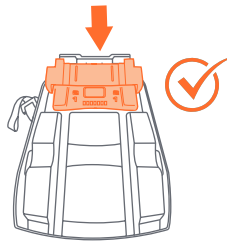

Fig. 57-1
- 1- Turn Base over with elevation foot away (Fig. 57-1).
NOTE: Position 1 is the store position (Fig. 57-1).